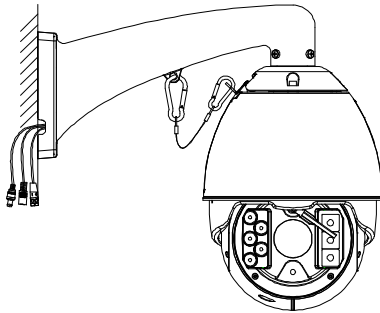

Fig 5-6 Fix the screws and finish installation
5. Connect the camera and wall mounting bracket by crash protection steel wire rope, then hold the camera and fix the bracket to wall, as fig 5-6.